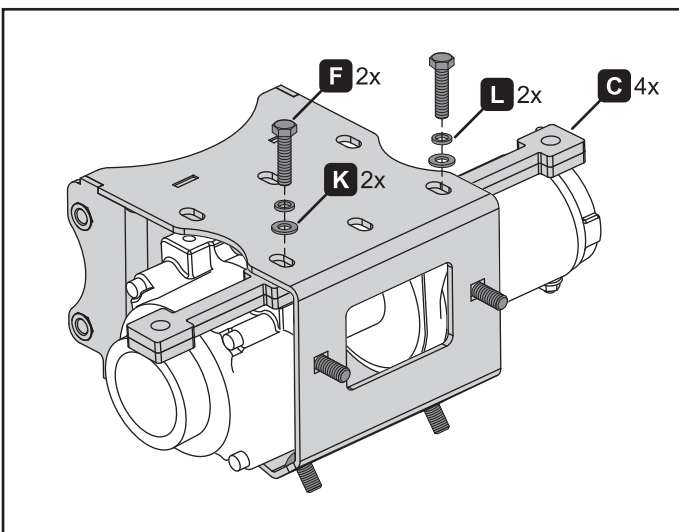

Figure 4.
With four spacers: Use bolts (F) and washers (K, L). See figure 4, 5 and 6.